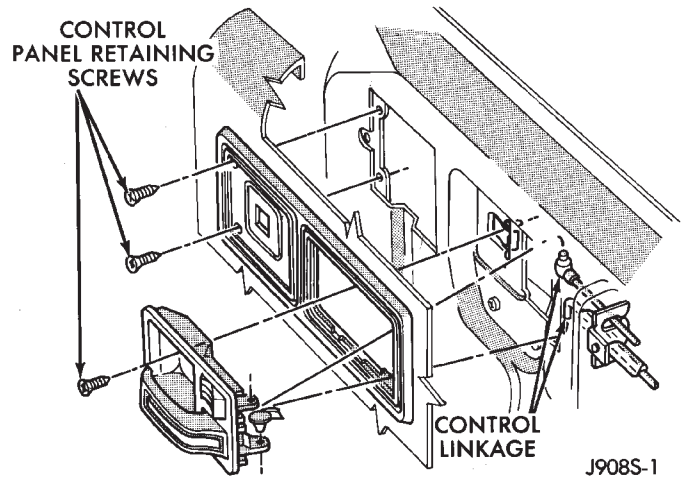

Fig. 11 Control Panel Remove/Install - XJ
- (1) Remove interior door latch release assembly and control panel retaining screws (Fig. 11).
- (2) Disconnect control linkage and wire harness connector.